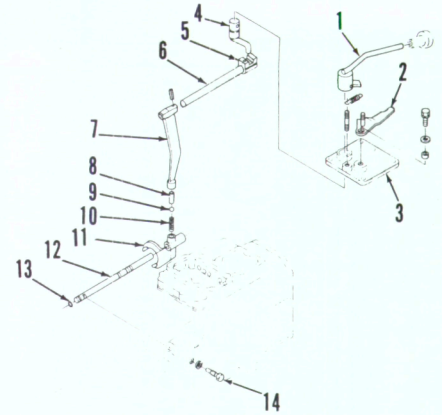

Fig. 148—Exploded view of pto shift linkage used on Models L235 and L275 equipped with single plate engine clutch.
Removal of pto shift linkage requires removal of front transmission housing as outlined in paragraph 81. Unbolt and lift off pto shift plate (3-Fig. 148 or 149). Remove main shifter housing. Drive spring pins out of shift rail holder (5) and shift arm (7), then push shift rail (6) out of shifter housing. Remove set screw (14-Fig. 148) or plug (17-Fig. 149) and detent ball (16). Drive spring pins out of shift fork (11-Fig. 149), then remove shift rail and fork.
Fig. 149—Exploded view of pto shift linkage used on Models L235 and L275 equipped with dual stage engine clutch. Refer to Fig. 148 legend except for the following: